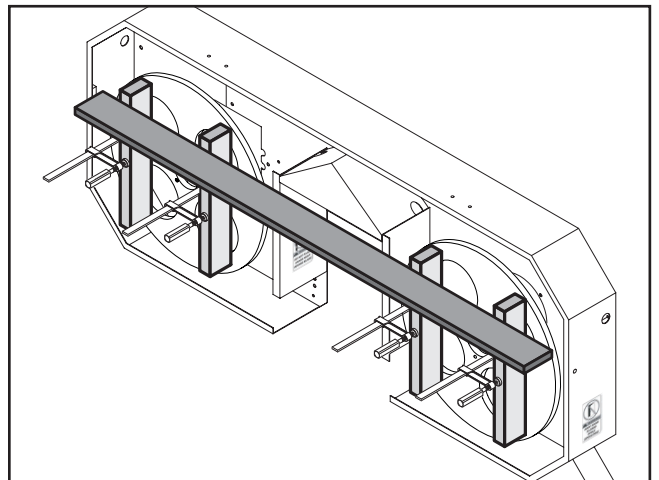

Figure 45. Straightedge placement when checking the upper portion of the wheels.
6. Place the straightedge across the top of the gauge blocks, as shown in **Figure 45**, and examine how the wheels line up with each other.